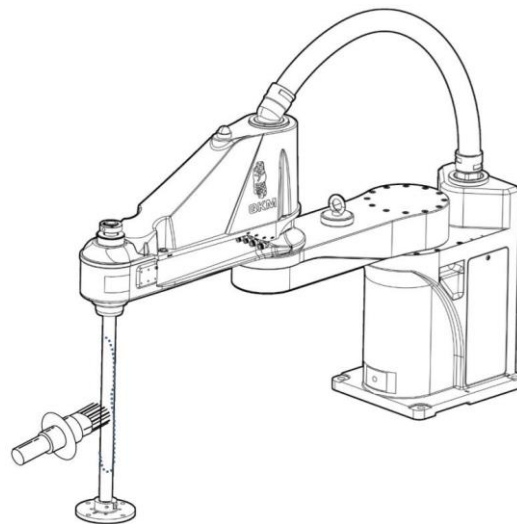

Figure 4-3 Apply lubricating grease
Step 2 Wipe the old grease off the screw shaft with dust-free paper, and then use the special oil brush to evenly apply appropriate amount of grease on the screw to completely cover it, as shown in Figure 4-3